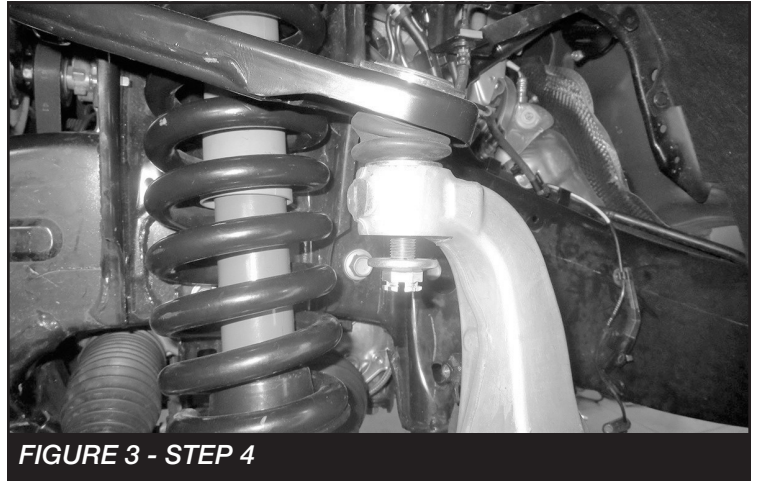

FIGURE 3 - STEP 4
4. Remove the cotter pin from the tie rod end ball joint nut. Loosen the nut and using a hammer strike the knuckle ball joint housing to dislodge the upper control arm from the knuckle. Do not remove the nut at this time. **SEE FIGURE 3**